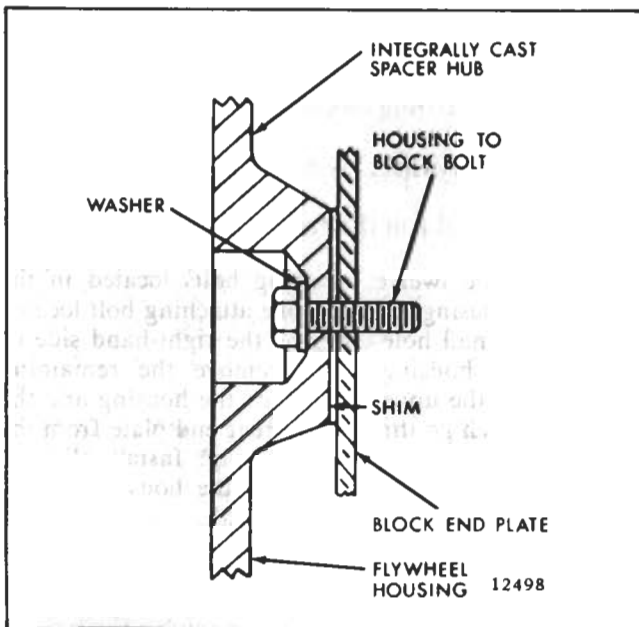

Fig. 3 - Idler Gear Hole Spacer Shim
**NOTE:** On certain flywheel housings, the idler gear hole spacer is cast integrally in the housing, opposite the idler gear (Fig. 3). As a result of this integral cast design, a shim must be installed between the flywheel housing and the cylinder block end plate. Use grease to hold the shim on the spacer during installation of the flywheel housing.